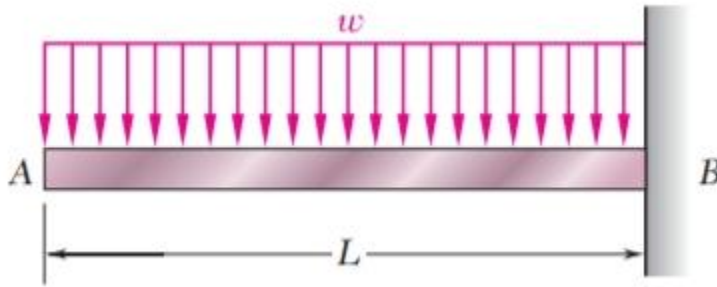

Figure 6.2
- (ii) a cantilever beam AB of span L supporting a uniformly distributed load w (Fig. 6.2). **(5 marks)**